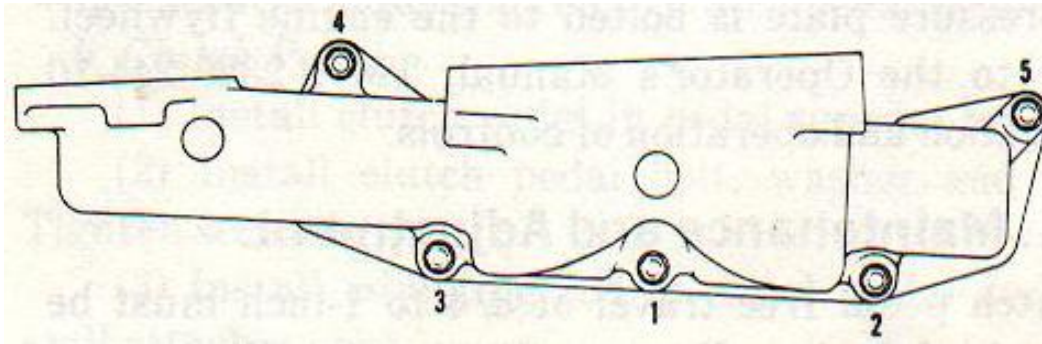

FIGURE 2-8. Intake Manifold Stud Nut Tightening Sequence
- (1) Tighten intake manifold nuts to proper torque (15-20 lbs-ft) following sequence shown in figure 2-8. Remove the pipe plug located at the top rear of intake manifold. Insert adapter into manifold and connect hose to vacuum gage. Insure that all connections are tight, even a slight leak will result in a false vacuum indication.
- (2) Start engine and run at idle speed (650 rpm) until minimum operating temperature (180°F) is obtained. Check carburetor adjustments (para 2-36a).
- (3) With the engine idling at 600 rpm, the vacuum gage should indicate a steady vacuum of 18 to 20 inches of mercury. As a further check, open and close the throttle quickly. If the engine is in good condition, vacuum should decrease to 3 inches of mercury at wide open throttle and quickly increase to 24 inches of mercury at closed throttle. If this action is not obtained, worn piston rings, or an abnormal restriction in the carburetor, air cleaner or exhaust system is indicated.